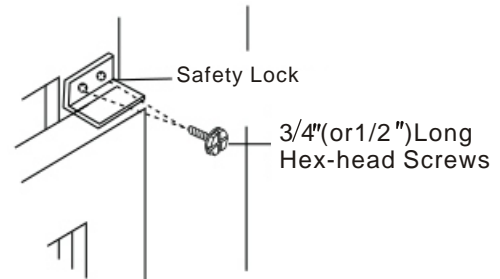

Fig.19
- Attach right angle safety lock (Fig.19).